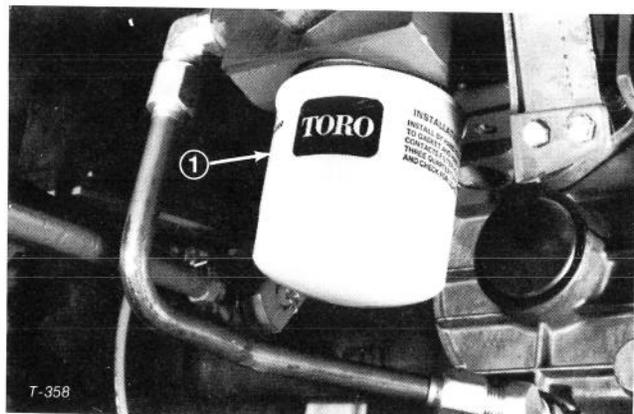

Figure 76
1. Clean area where hydraulic oil filter mounts. Remove filter from transmission (Fig. 76) and clean oil filter mounting surface on bottom of transmission.